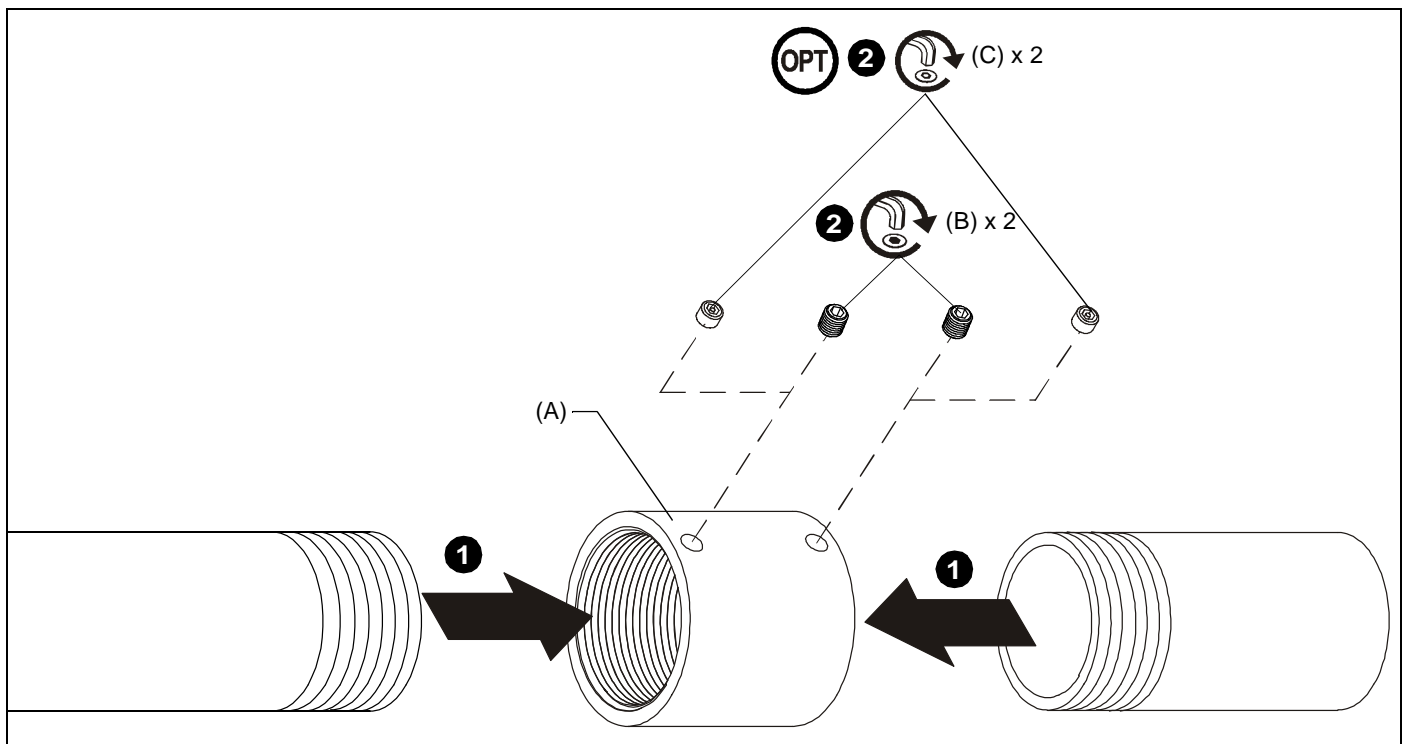

Figure 1
1. Install 1-1/2" NPT or NPSM following ANSI/ASME B1.20.1 (Schedule 40, 0.154" minimum thickness aluminum - ASTM B221) threaded extension columns (not included) into CMA270 (A) until tight, with a minimum of four threads engaged. (See Figure 1)
2. Using hex keys (D or E), secure extension columns by *one* of the following methods (See Figure 1):
- Install two 5/16-18" x 3/8" set screws (B) into threaded holes, tightening firmly against columns.
- **OPTIONAL:** Install two 5/16-18" x 1/4" security set screws (C) into threaded holes, tightening firmly against columns.